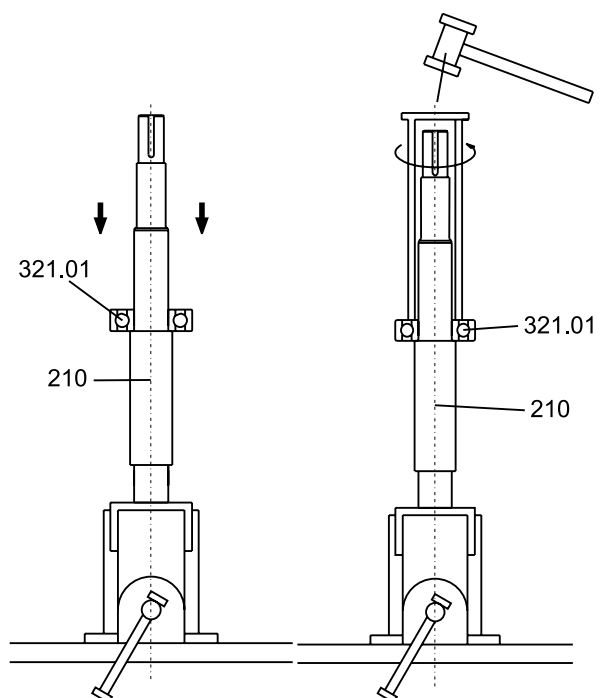

Fig. no. 13 : Fitment of bearings.
3. Heat the bearings (321.01/02) in the oven about 80 °C max. and push it on to the shaft. Fig. no.13. Allow the bearings to cool down. Then tap it lightly against the shoulder using suitable pipe punch.